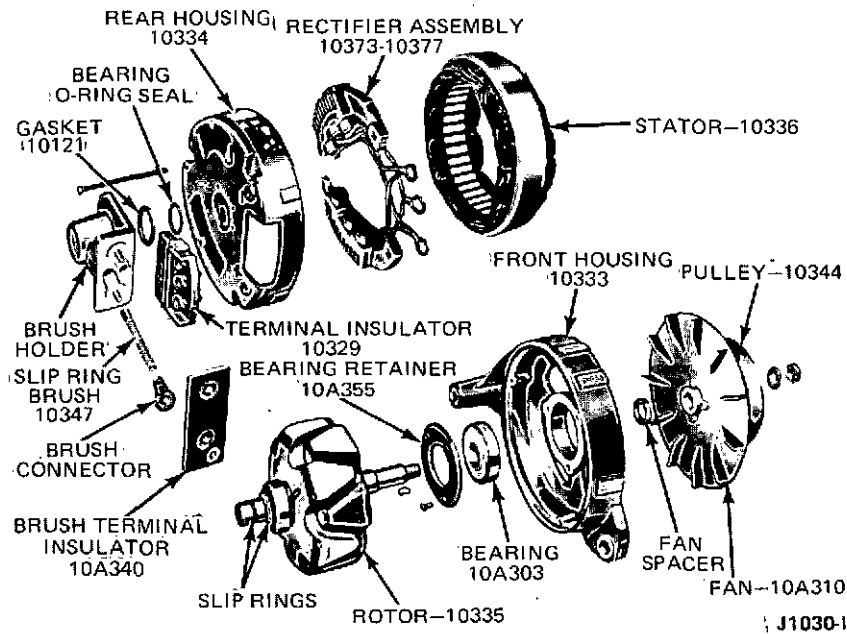

Fig. 34 - Disassembled 65-Ampere Leece-Neville Alternator
A disassembled view of the alternator is shown in Fig. 34.
7. Install the brush holder with the O-ring between the holder and the frame (Fig. 34). Place the brushes and springs in the holder with the extruded portion of the brush connectors against the terminal screw shoulders. Hold the brush connectors in position with a machinists steel scale until the terminal insulator is installed. Install the brush terminal insulator, and withdraw the steel scale.